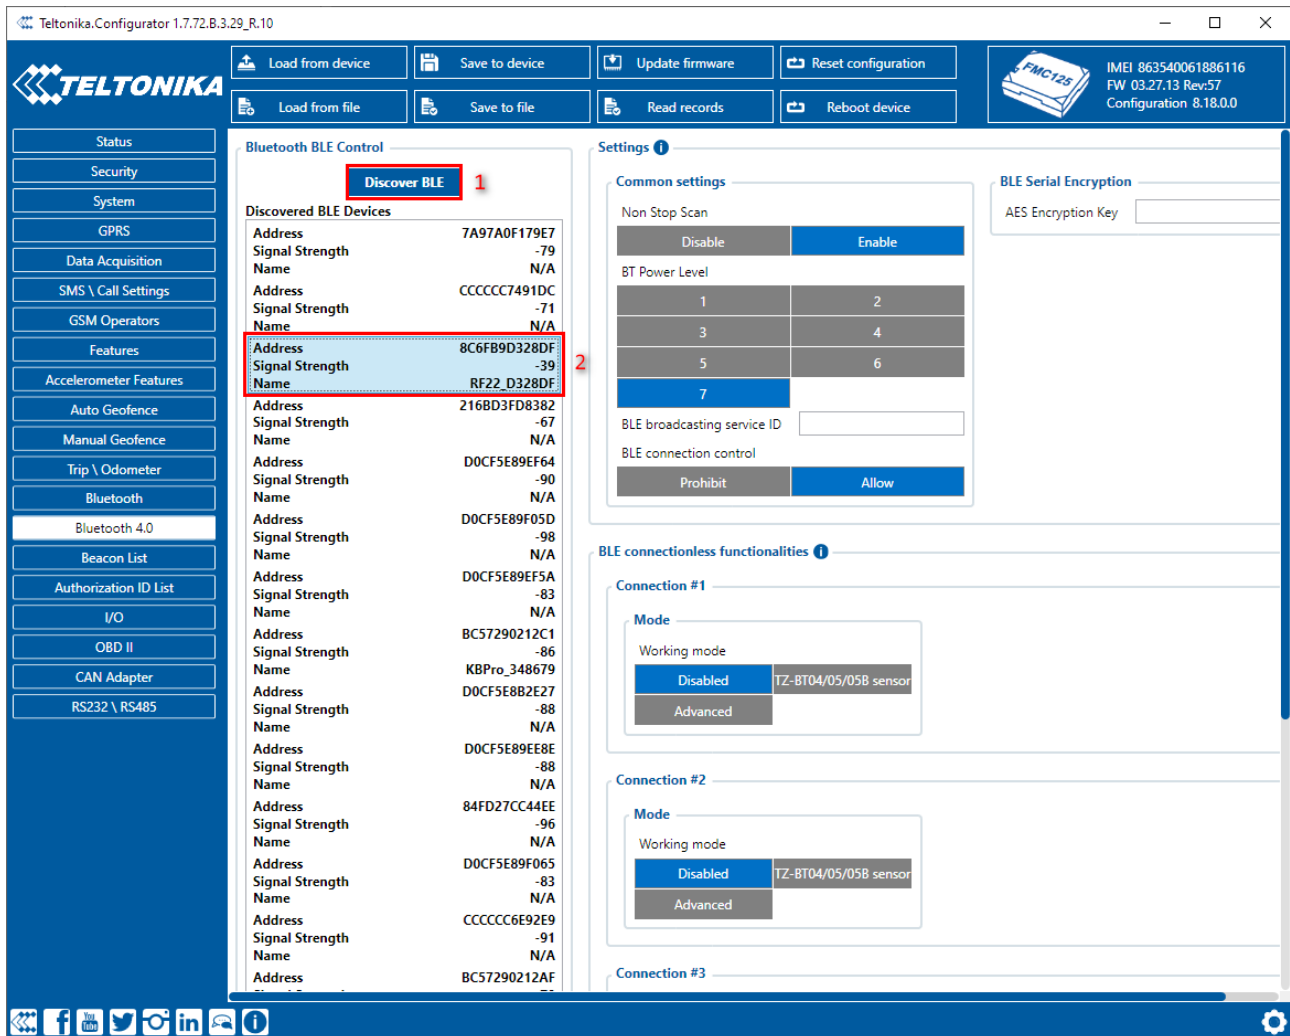

Figure K.3
K.1.3 On the "Bluetooth 4.0" tab (Fig. K.3):